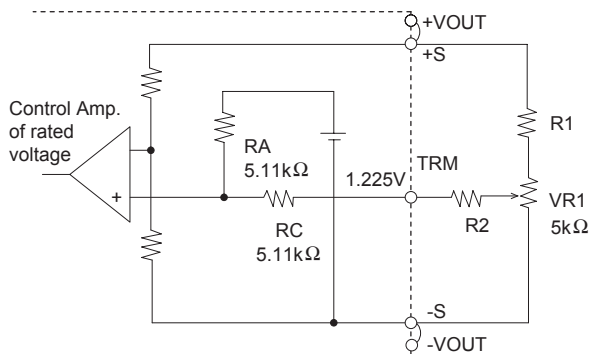

Fig.4.4 Output voltage control circuit
(1) To adjust output voltage
■ By connecting the external potentiometer (VR1) and resistors (R1, R2), output voltage becomes adjustable, as shown in Fig.4.4. Recommended external parts are shown in Table 4.2.